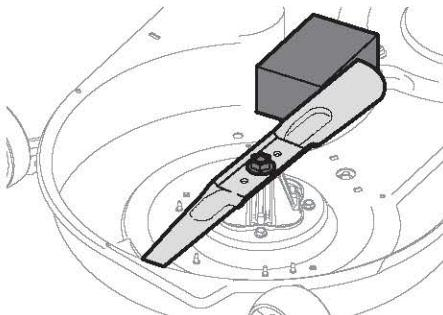

Figure 46
2. Place a block of wood between the deck housing baffle and the cutting blade to act as a stabilizer (Figure 46).
- Place a block of wood between the deck housing baffle and the cutting blade to act as a stabilizer (Figure 46 on page 32).